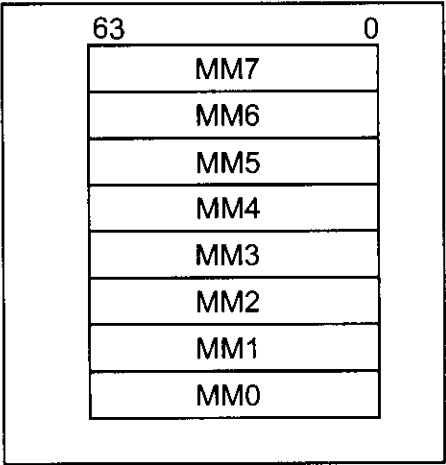

Figure 23-10. MMX Register Set
As stated earlier, one of the main goals of MMX technology was to maintain compatibility with other x86 processors with no MMX capability. To assure that, Intel uses the FP (floating-point) register set of the x87 math coprocessor as the working register for MMX instructions instead of introducing a whole new set of registers. This is called *register aliasing*, meaning that the same physical register has different names. While the x87 FP registers are 80 bits wide, the MMX uses only 64 bits of it. The x87 floating-point registers are called ST(0), ST(1), ..., ST(7) when they are used by the x87 instruction set but the same registers are called MM0, MM1, ..., MM7 when used by the MMX portion of the CPU. See Figure 23-10. Register aliasing by MMX has some major implications: